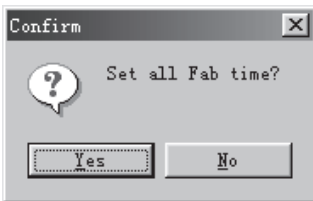

Fig. 6.2
1. Select and click the option <System> <Set all Comat BoxX Time> then a dialogue frame to carry out the operation of setting the time will be displayed in the interface, as in Fig. 6.2.